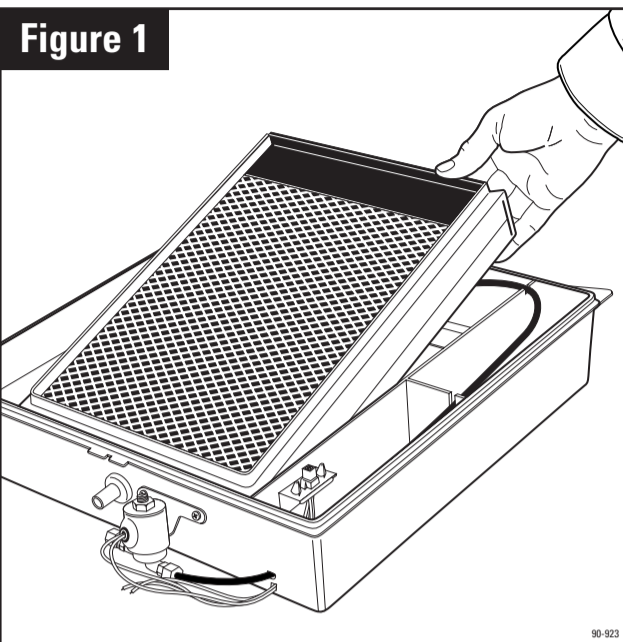

Figure 1
**1.** Place the humidifier on a flat surface. Unlatch humidifier cover assembly from base assembly at the bottom of the cover, lift and set aside. Pull out the Water Panel® evaporator assembly by grasping at the top and tipping out. (See Figure 1)